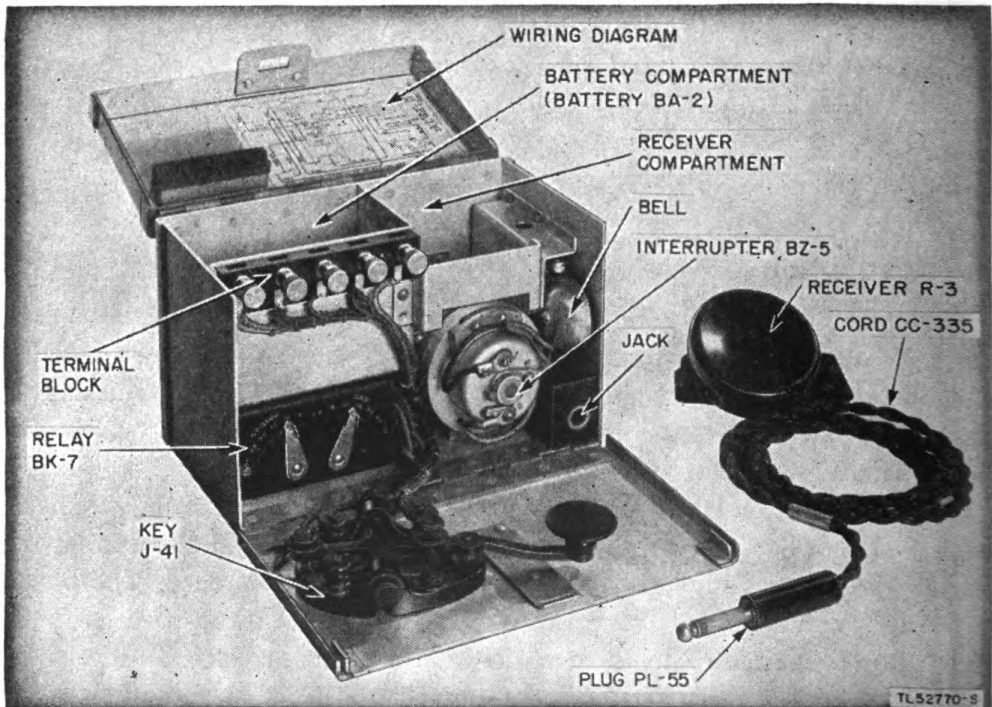

Figure 3. Telegraph Set TG-5, cover open.
b. Box (figs. 3, 4, and 5). The box which contains the circuit elements of Telegraph Set TG-5-(*) is constructed of sheet metal and is approximately 5½ inches high, 10 inches long, and 5½ inches deep. The box is provided with a hinged front and cover. When closed, the cover projects over the front edge of the box and holds the front in place. In the closed position a spring catch on the front engages with a hasp mounted on the cover and serves to hold the cover closed. When open, the front folds down
c. **TERMINAL BLOCK.** (1) The terminal block on Telegraph Set TG-5 is fastened to the front of the battery compartment with two screws. It consists of a piece of bakelite 4 inches long, $\frac{7}{16}$ inches wide, and $\frac{5}{16}$ inches thick. Five Binding Posts TM-150 are mounted on the terminal block and are labeled from left to right -3V, +, 22V-, L1, and L2. (See fig. 3.)
d. **RELAY BK-7-(*)**. (1) *Relay BK-7*. Relay BK-7 is used in Telegraph Set TG-5 only. The relay is contained in a black bakelite housing and is mounted on the left side of the box just below the battery compartment. The front of the relay contains two levers for the adjustment of the relay spring tension and the armature air gap. The lever on the left is labeled SPRING and the one on the right GAP. Both levers move over a scale graduated from 0 to 30. (See fig. 3.)
e. BELL (figs. 3, 4, and 5). The bell used in Telegraph Set TG-5-(*) is a d-c vibrator type and is fitted with a $1\frac{1}{4}$ -inch gong. A small screw on the side of the bell frame provides a means of adjusting the distance between the fixed contact and the movable contact mounted on the clapper arm. In Telegraph Set TG-5 the bell is mounted between the receiver compartment and the right side of the case. In Telegraph Sets TG-5-A and TG-5-B the bell is mounted directly under the relay.
f. INTERRUPTER BZ-5 (fig. 3). Interrupter BZ-5 is part of Telegraph Set TG-5 only. The interrupter (howler) serves as a local tone source for the operator and consists of a double carbon button mounted against the diaphragm of a telephone receiver. When operating, the interrupter produces a steady tone of approximately 1,000 cycles per second. The interrupter is mounted in front of the receiver compartment by means of two screws through the bottom of the box.
j. JACK JK-35 (figs. 3, 4, and 5). Jack JK-35 is a tip-sleeve type jack with an extra set of contacts, equivalent to a single-pole, double-throw
k. KEY J-41-(*) (figs. 3, 4, and 5). Key J-41-(*) is an open-circuit telegraph type key mounted on a molded phenolic base which, in turn, is mounted on the folding front portion of the box. The key contains two sets of contacts, one set toward the front of the key lever and the other at the back. In the normal position, the front contacts are open and the back contacts are closed. Three binding posts, two on the right and one on the left, are provided for connecting the key into the circuit. A knurled screw and locknut at the rear of the key lever provides a means of adjusting the opening between the front contacts. Another knurled screw and locknut toward the front of the lever is used to adjust the tension of the spring which keeps the front contacts open. The key lever is mounted on the frame by means of two knurled screws threaded through the sides of the frame.
l. HEADSET HS-20 (figs. 3, 4, and 5). Headset HS-20 consists of Receiver R-3, Cord CC-335, and Plug PL-55.
(1) The receiver is the magnetic type having a d-c resistance of approximately 80 ohms. The receiver is contained in a watch type case having an adjustable web headband fastened to brackets on the sides of the case.
(2) The cord consists of approximately 4 feet of two-conductor, twisted, rubber- and braid-covered cord terminating in Plug PL-55.